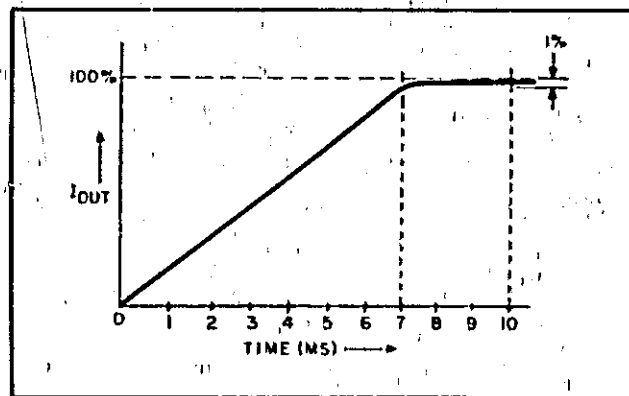

Figure 5-8. Up-Programming Speed Waveform
- f. Programming speed should be within tolerances of Figure 5-8. Output should rise from zero to 297 volts within 10 milliseconds. Fall time (down programming) should be almost identical to rise time shown in Figure 5-8 except for inversion.